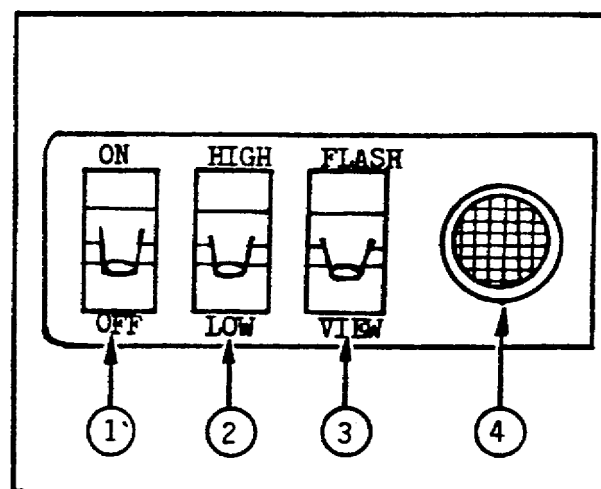

Figure 1-12. Control Panel
i. Control Panel (fig 1-12). The control panel consists of three switches and a ready light. ON-OFF Switch 1 - functions as a master switch for the copier. The view light and electronic flash operate only when this switch is in the ON position. HIGH-LOW Switch 2 - controls power output of electronic flash. When in the HIGH position, the unit will deliver four times (two f/stops) the amount of light as when in the LOW position. FLASH-VIEW Switch 3 - in FLASH position, the switch completes the circuit for firing the electronic flash with the camera shutter release; in VIEW position, the switch turns on the view light for illuminating the transparency, for focus and framing. READY LIGHT LIGHT 4 - glows when the